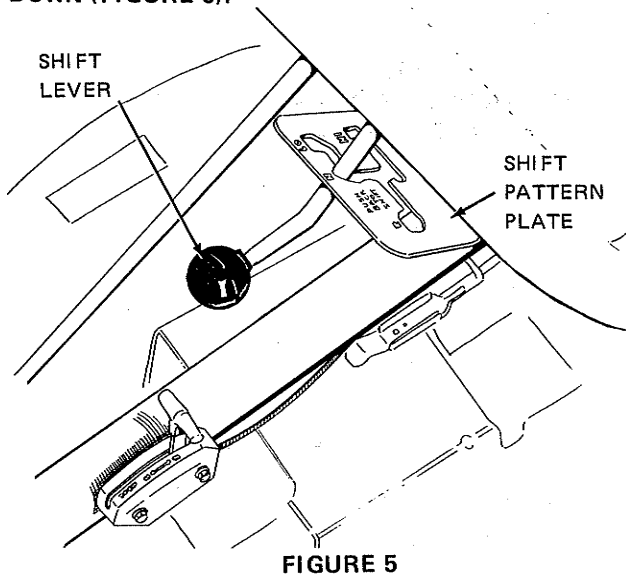
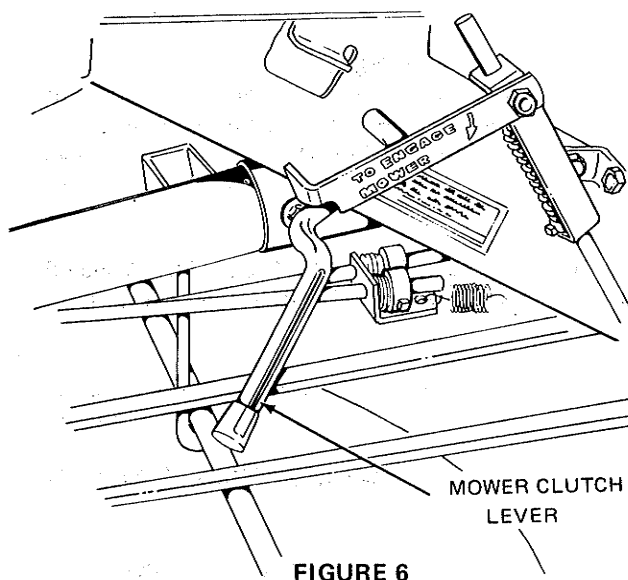
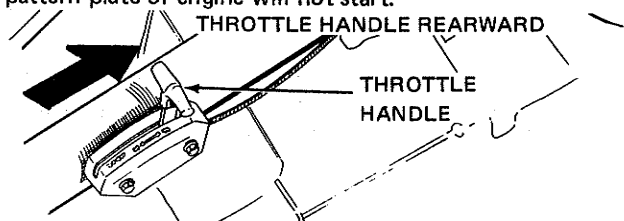

FIGURE 5
FIGURE 6
FIGURE 7
CAUTION: PLACE TRANSMISSION SHIFT LEVER IN NEUTRAL POSITION (FIGURE 5) AND DISENGAGE THE MOWER DRIVE BY MOVING THE CLUTCH LEVER DOWN (FIGURE 6).
2. Move throttle lever all the way rearward to close the choke (Figure 7). Always move to this position to start, whether engine is warm or cold. Make sure shift lever is in neutral (Figure 5) and mower disengaged (Figure 6). Shift lever must be completely up into neutral (N) notch of shift pattern plate or engine will not start.